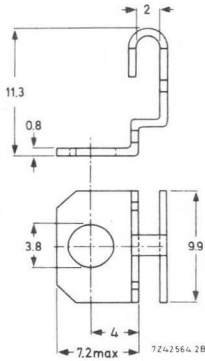

Fig. 5a. Metal mounting bracket
- metal bracket for panel mounting (catalogue number 4332 026 04750), Fig.5a